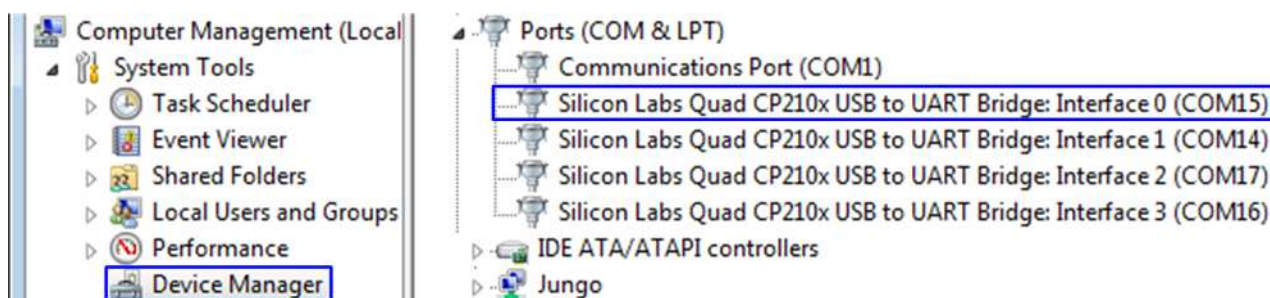

Figure 2-7 Two COM ports from FPGA connection
- 8) Open Serial console. When connecting ZCU102 board to PC, there are four COM ports displayed on Device Manager. Use COM port number of Interface0 (COM15 in Figure 2-7) for Serial console.